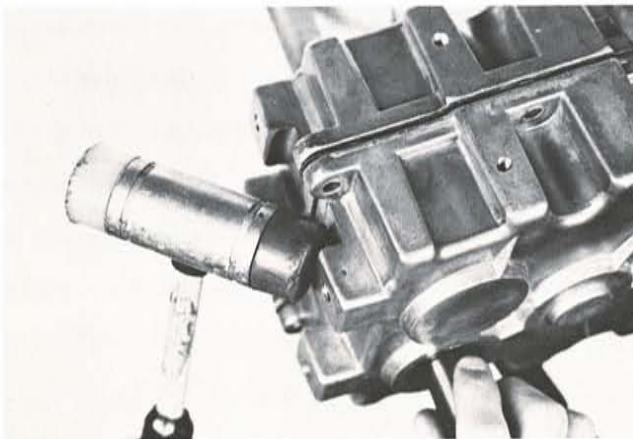

Fig 7
5. Using a plastic mallet, tap lightly until cases separate. (Fig 7)